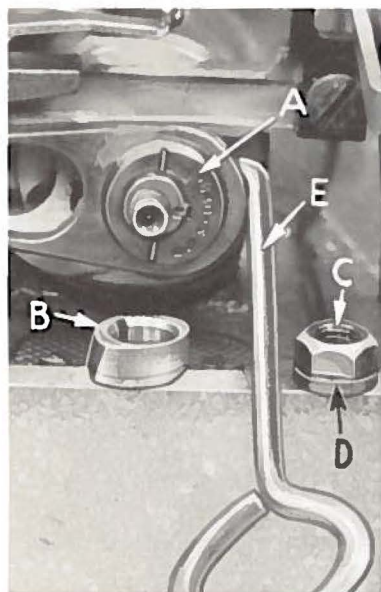

Fig. 14
In assembling the feed eccentric (A, Fig. 14), be sure the hub and oil groove is to the left. Beveled edge of feed eccentric spacer (B) should also be to the left side, so the undercut on the spacer will be over the hub on the feed eccentric. Be careful not to damage shaft or key.